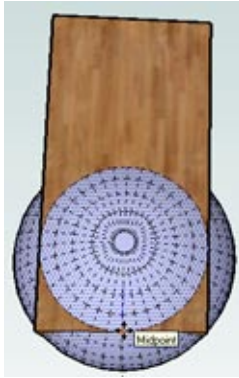

Figure 4-38
9. Move the sphere straight down so that the lowest point on any of the protruding sides meets the midpoint of a lower edge (Figure 4-38). This establishes the corners of the box that need to be trimmed.